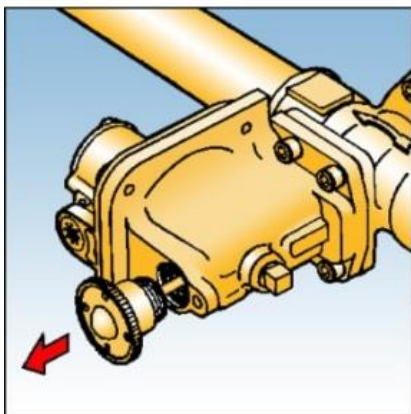

Fig. 3
3. Firmly pull out reset spindle to re-cock OPSS and release spindle gently. See Fig. 3.
10. Re-cock OPSS by firmly pulling reset spindle. See Fig. 3. (Hold for approx. 5- 10 secs).
3. Firmly pull out reset spindle to re-cock OPSS unit and release spindle gently. See Fig. 3.
5. Firmly pull out reset spindle to re-cock OPSS unit. Hold for 5 - 10 seconds and release spindle gently. See Fig. 3.